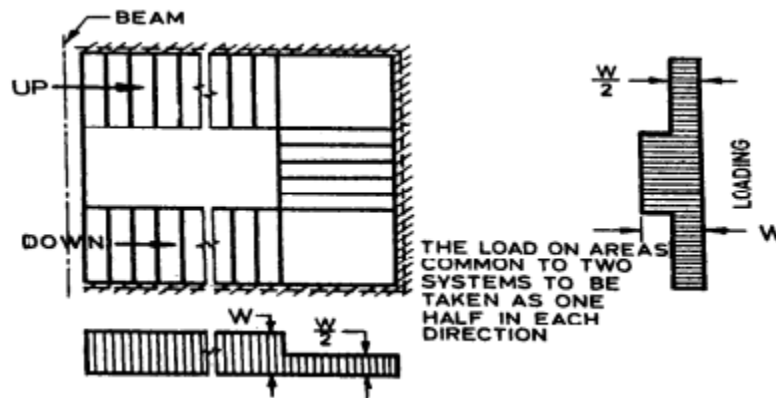

Fig. 1
In the case of stairs with open wells, where spans partly crossing at right angles occur, the load on areas common to any two such spans may be taken as one-half in each direction as shown in Fig. 1. Where flights or landings are embedded into walls for a length of not less than 110 mm
- Where spanning on to the edge of a landing slab, which spans parallel, with the risers (see Fig. 1), a distance equal to the going of the stairs plus at each end either half the width of the landing or one metre, whichever is smaller; and